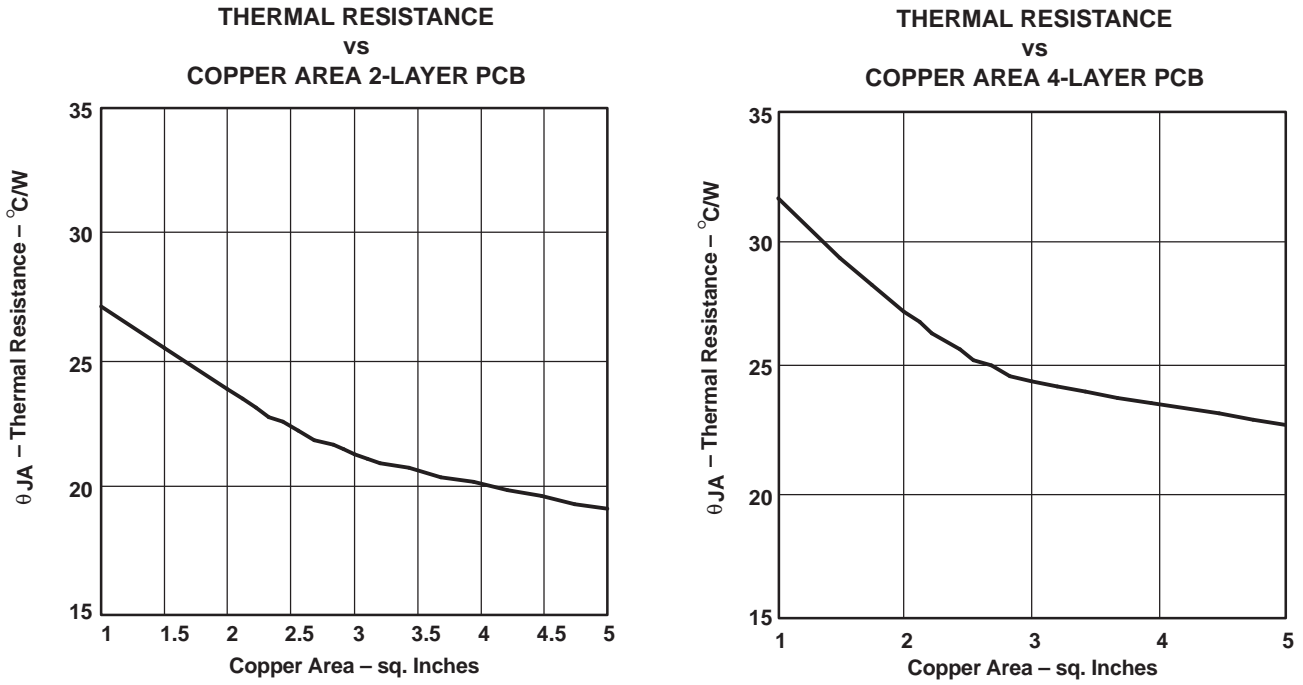
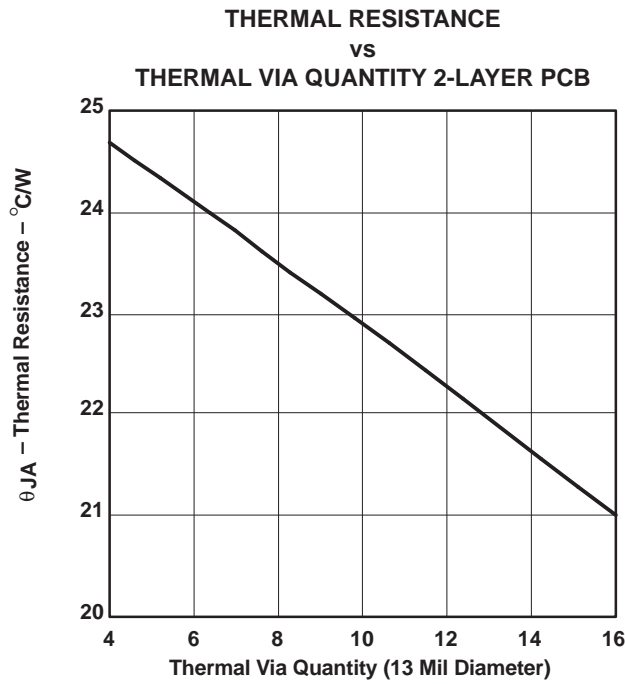

Figure 47. Thermal Resistance
Figure 48. Thermal Resistance
$\theta_{JA} = 19^\circ\text{C/W}$       2-Layer PCB, 5 sq. in. copper, see Figure 47. (8)
Figure 47 and Figure 48 show the results of several thermal experiments conducted with the TPA3004D2. Both figures show that the best thermal performance can be achieved with more copper area for heat dissipation and an adequate number of thermal vias.
Figure 47 shows two curves for a 2-layer and 4-layer PCB. The 2-layer PCB layout was tightly controlled with a fixed amount of 2 oz. copper on the bottom layer of the PCB. The amount of copper is shown on the x-axis. Nine thermal vias of 13 mil (0.33mm) diameter were drilled under the PowerPad and connected to the bottom layer. The top layer only consisted of traces for signal routing.
Figure 48 shows the effect of the number of thermal vias drilled under the PowerPad on the thermal performance of the PCB. The experiment was conducted with a 2-layer PCB and 3 square inches of copper on the bottom layer. For the best thermal performance, at least 16 vias in a 4x4 pattern should be used under the PowerPad. Refer to the TPA3004D2 EVM User's Manual, SLOU115, for an example layout with a 4x4 via pattern. PCB gerber files are available at request.